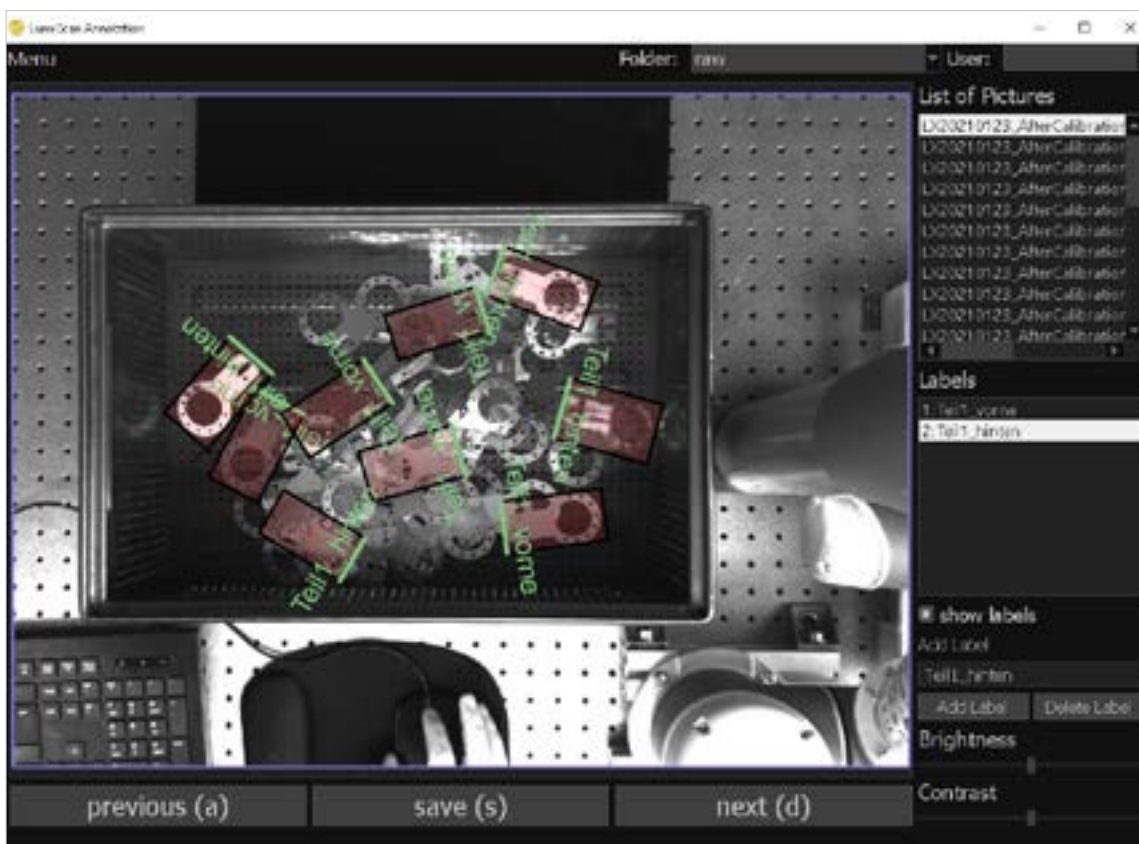

Fig. 14: LumiScan Annotation: Example
1. First, double-click with the left mouse button on the position where you want the bottom edge of the bounding box to be. This border will always be green (Fig. 14).
**Selecting a bounding box:** Existing boxes can be selected with a simple left-click. A selected box is highlighted by a slightly different color and four yellow, circular corner handles (Fig. 14).